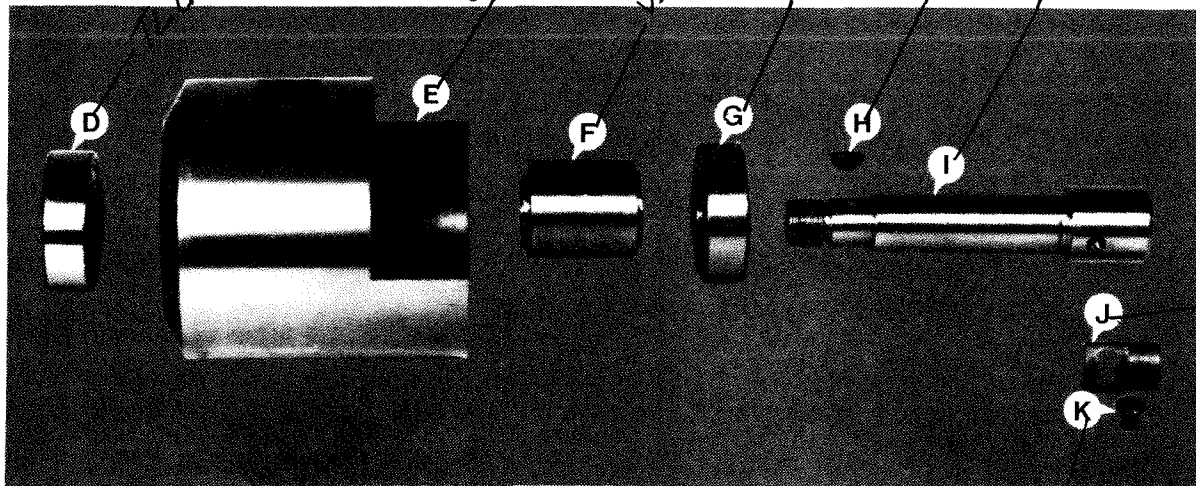

Figure 3.19 - Drive Cartridge Housing and Components
7. Remove woodruff key "H", Figure 3.19 .
1. If they were removed, remount cam "J" and screw "K", Figure 3.19 .